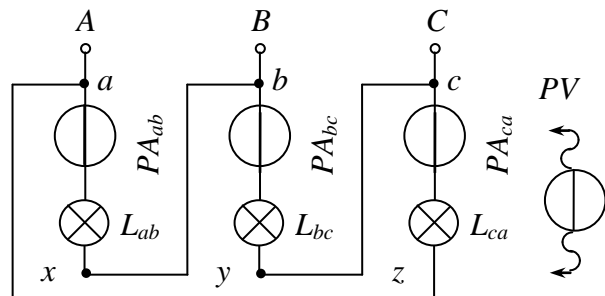

Fig. 7.5
2. Investigate the circuit (fig.7.5) with balanced loading (SB_1 and SB_2 closed, switch « $L \leftrightarrow \mathcal{I}$ » in position \mathcal{I}). Fill in the table 7.2 with results. Draw the vector diagram of currents and voltages using the data from table 7.2.
3. Investigate the circuit (fig.7.5) with non-balanced loading (SB_1 and SB_2 opened, switch « $L \leftrightarrow \mathcal{I}$ » in position \mathcal{I}). Fill in the table 17.3 with results. Draw the vector diagram of currents and voltages using the data from table 17.3.
4. Investigate the circuit (fig.7.5) with balanced loading ($SB\ 1$ and $SB\ 2$ closed, switch « $L \leftrightarrow J$ » in position J) when the phase ab is cut (no wire between x and b). Write down the results to the table 7.4, line 1. Investigate the circuit (fig.7.5) with a non-balanced loading ($SB\ 1$ and $SB\ 2$ open, switch « $L \leftrightarrow J$ » in position J) when the phase ab is cut (no wire between x and b). Fill in the line 2 of table 7.4 with results. Draw the vector diagrams of currents and voltages using the data from table 7.4.
The name and purpose of work. Homework – the calculation of the circuit. The schematic diagram of the investigated circuit (fig 7.5). The tables 7.2, 7.3, 7.4. The vector diagrams. The conclusions.